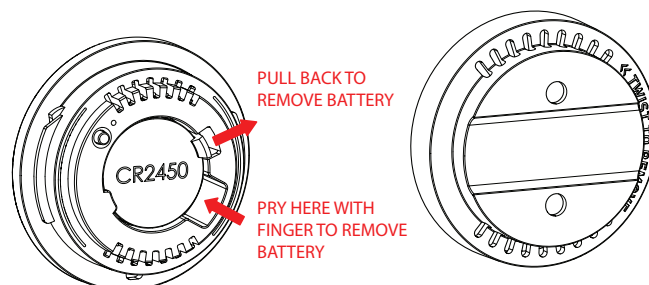

fig. 1
1. Make sure a fully charged CR2450 battery is installed in the sensor as shown in Fig. 1.